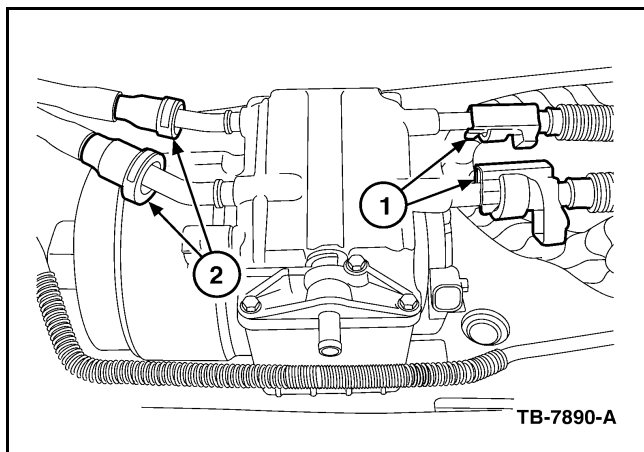

Figure 3 - Article 04-9-2
- a. Remove the fuel hose retaining clips and discard. Disconnect the fuel hoses from the fuel pump (Figure 3 - #1).
- b. Press in the retaining clips and release the fuel hoses (Figure 3 - #2).